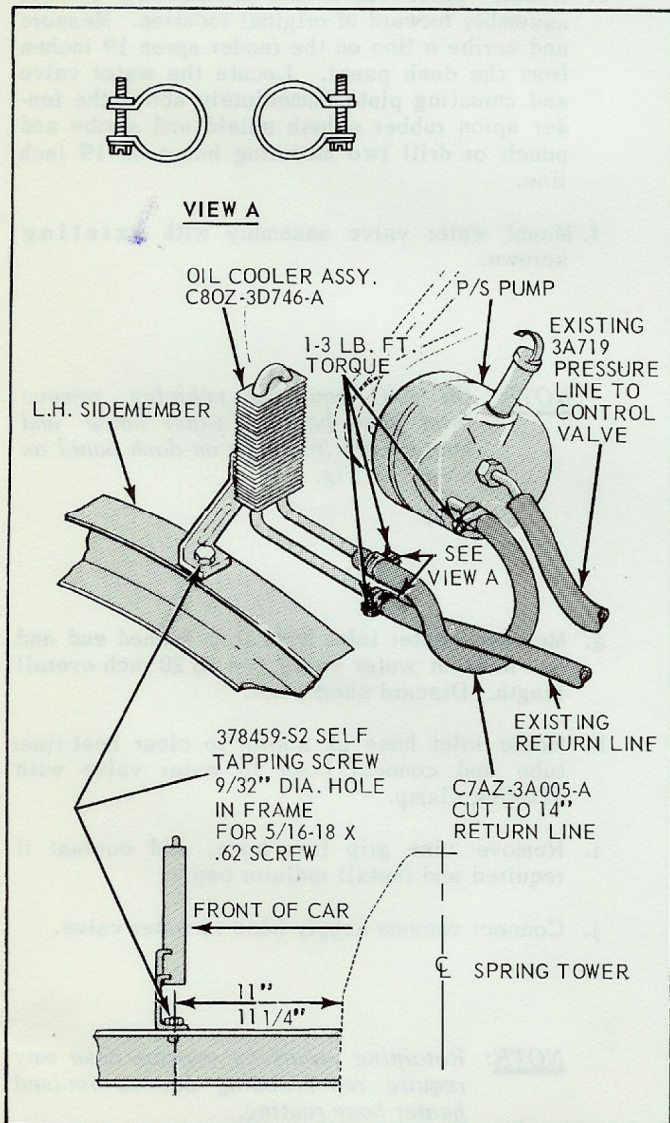

Fig. 3 - Power Steering Oil Cooler Assembly 9033A
1. Drill one (1) 9/32" diameter hole in the left side-member forward of the spring tower as indicated in Fig. 3.
2. Install the oil cooler assembly (Part No. C80Z-3D746-A) with a self tapping screw (Part No. 378459-S2) and torque to 7-12 lb. ft. (See Fig. 3).